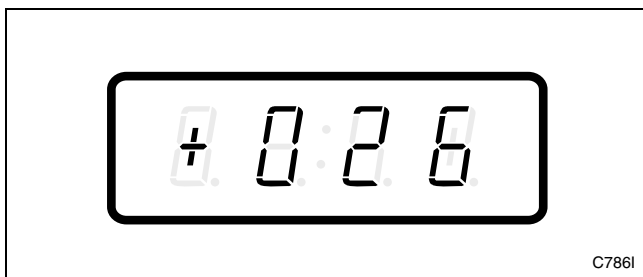

Figure 100
3. Press the LOW TEMP (+) or the NO HEAT (-) keypad to scroll through the programmable options until “+026” appears in the VFD. Refer to *Figure 100*.